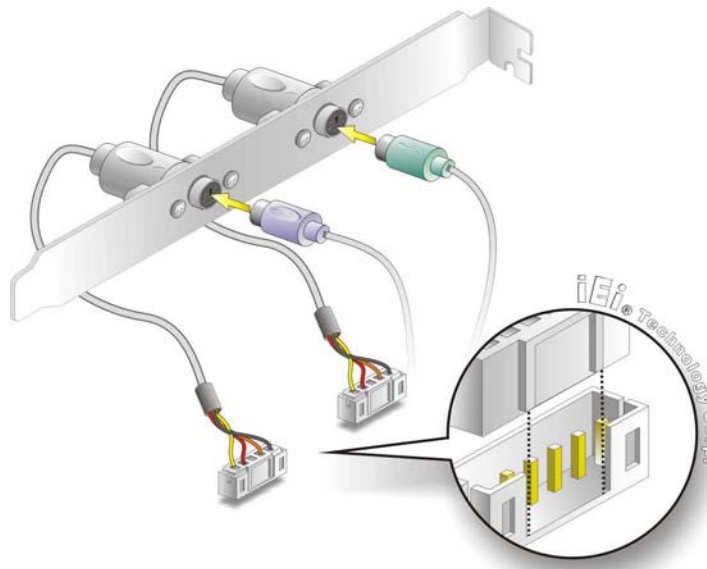

Figure 4-14: Keyboard and Mouse PS/2 Cable with Bracket
Step 3: Insert the cable connectors. Once the keyboard (mouse) cable connector is properly aligned with the keyboard (mouse) connector on the SPCIE-5100DX, connect the cable connector to the on-board connector. See Figure 4-14.
Step 5: Connect the keyboard and mouse. Once the PS/2 connectors are connected to the chassis, a keyboard and mouse can each be connected to one of the PS/2 connectors. See Figure 4-14. The keyboard PS/2 connector and mouse PS/2 connector are both marked. Please make sure the keyboard and mouse are connected to the correct PS/2 connector.